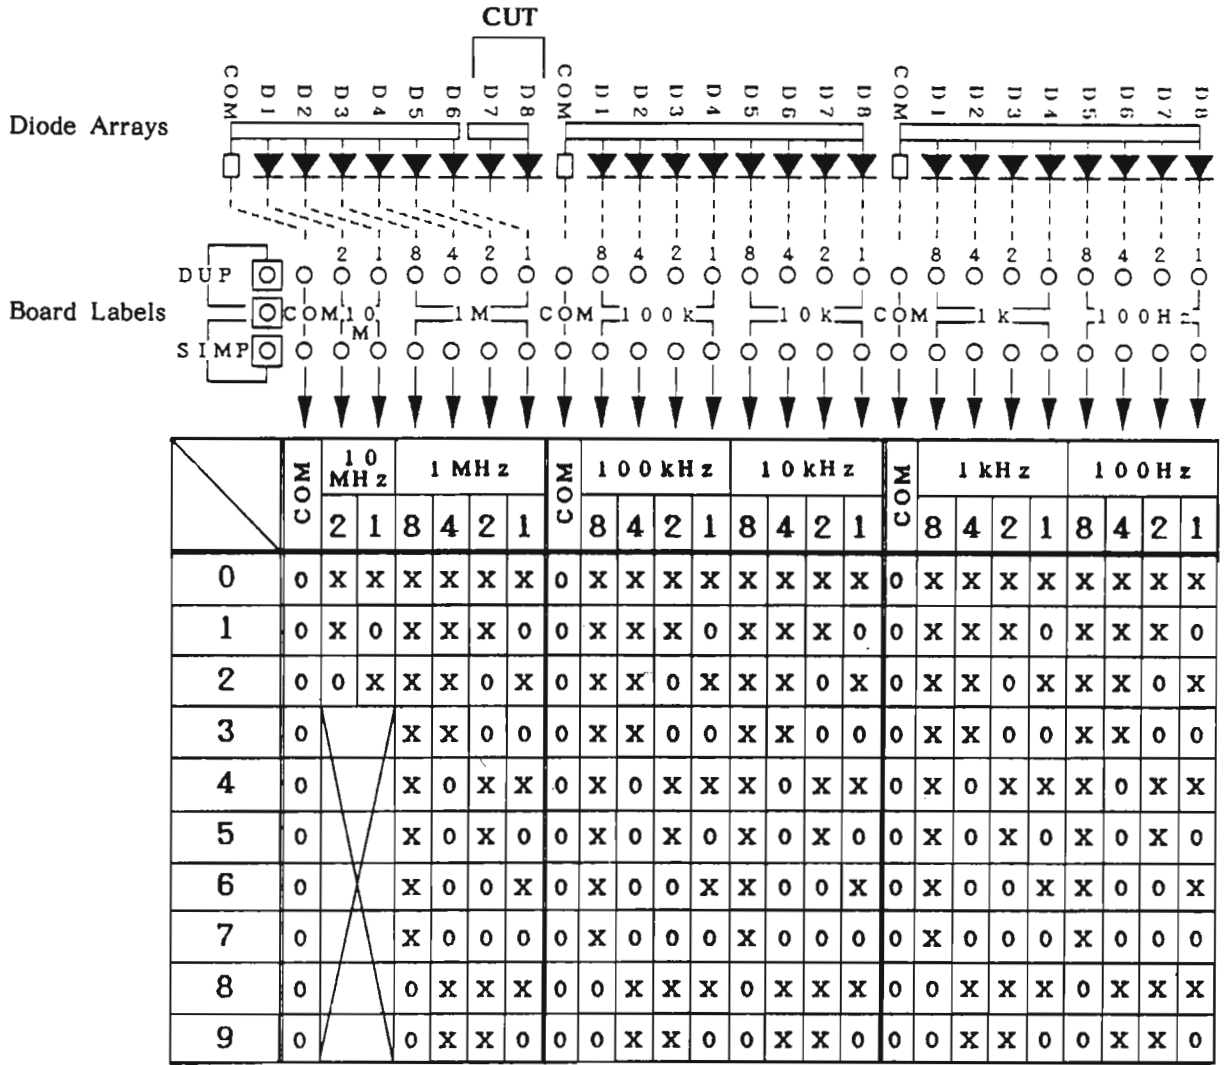

Figure 3. Diode Array Encoding Method and Installation
remove the two diodes furthest from the jumper component (see the Diode Arrays at the top of Figure 3). Thus each array to be used for MHz digits will be shorter than those used for kHz and Hz digits, and will have just 6 diodes (before programming), plus the jumper component. Be careful not to cut the jumper component.
The four diode array positions for each digit of frequency (except 10's of MHz) are marked on the Matrix Unit according to their value: 8, 4, 2 and 1, in that order from left to right. Refer to the Board Labels in Figure 3. The accompanying table (lower part of Figure 3) indicates which diodes must be cut ("X" in the table) to set any digit from 0 to 9, but you can also calculate which diodes to cut without the table. For example, to program 7 as the 10 kHz digit, just cut the fourth diode from the right on the array you will install in the center position: leaving the diodes in the 1, 2 and 4 positions ($1 + 2 + 4 = 7$). The 10's of MHz digit is programmed with the two leftmost diode positions (values 2 and 1) on the leftmost array.
- (a) Because the receive and transmit frequencies are different, this is a semi-duplex channel, so a jumper must be installed between the DUP hole and the hole nearest the "6CH" label at the left edge of the "6CH" row pair on the board (step (3) on page 8).
- (b) Calculate the programming frequency (step (4) on page 8): in A3H mode, semi-duplex, the frequency used to program for receiving must be shifted 0.5 kHz below the actual receive frequency, so the programming frequency will be $14500 - 0.5 = 14499.5$ kHz (14.4995 MHz). The transmit programming frequency for A3H mode is not offset, so it is the same as the desired operating frequency, 14570 kHz (14.570 MHz).
- (c) Six diode arrays are required for a semi-duplex channel. Cut the right end of the common rail (with two diodes) off of two of the arrays. Program both of these shortened arrays for 14 MHz, by cutting the leftmost diode nearest the white jumper component (the leftmost D1 at the top of Figure 3, labelled "2" on the board) leaving just D2 (value 1) for the 10's of MHz digit; and also cut the 3rd, 5th and 6th diodes (D3, D5 and D6, labelled "8", "2" and "1" on the board) leaving only D4 (value 4) for the 1's of MHz digit. Both of these "14 MHz" arrays should look like this:
(d) Now trim one of the remaining four diode arrays for the 100's and 10's of kHz digits for receiving: 4 and 9. To do this, cut the 1st, 3rd, 4th, 6th and 7th diodes (counting right from the jumper component, indicated as D1, D3, D4, D6 and D7 at the top of Figure 3). This leaves just the "4" value for the 100's of kHz, and "8" and "1" values (= 9) for the 10's of kHz digit. The array should now look like this: